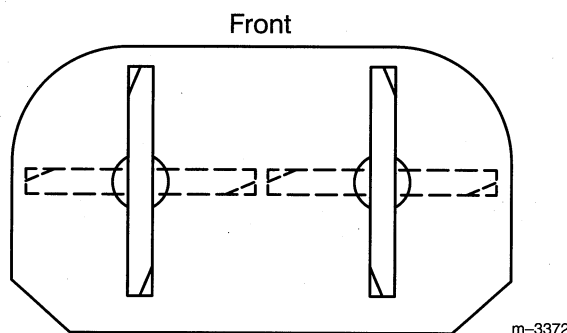
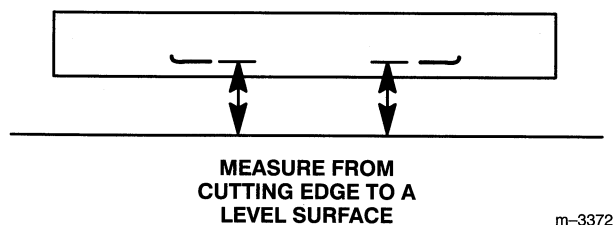

Figure 21
Figure 22
1. Rotate the blades until the ends face forward and backward (Fig. 21). Measure from a level surface to the cutting edge of the blades (Fig. 22). Note this dimension.